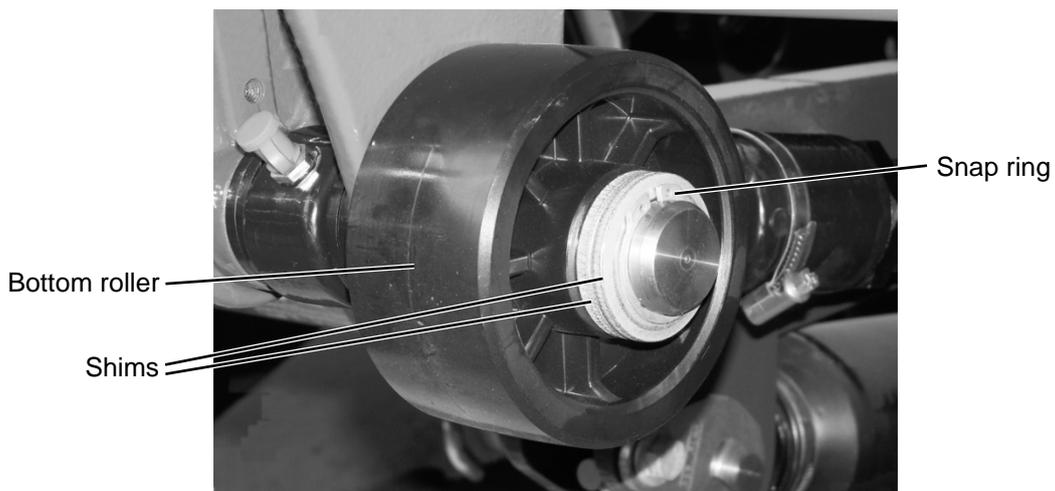

Figure 38: Installing the bottom roller
- ▶ Fit the bottom rollers and secure them on each pin/locking screw with a snap ring (see Figure 38).